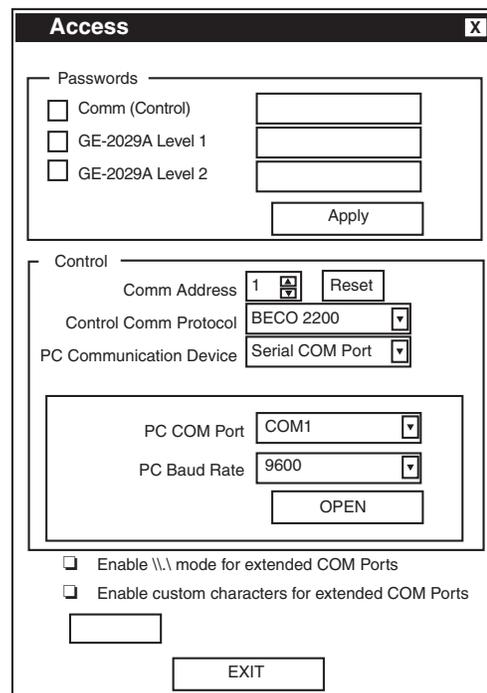

Figure 9-10 Communication Access (Serial) Dialog
1. Start the GE-2029A program, GE-2029A will display the **Communication Access (Serial)** dialog screen (Figure 9-10).
To address additional controls at the same location (Not applicable to Ethernet connections), the user must reset the control address from the Communication Access Screen (Figure 9-10). When RESET is selected, GE-2029A will respond with a confirming dialog screen, shown below. As long as communication to the remote location is maintained, the user can switch between controls.